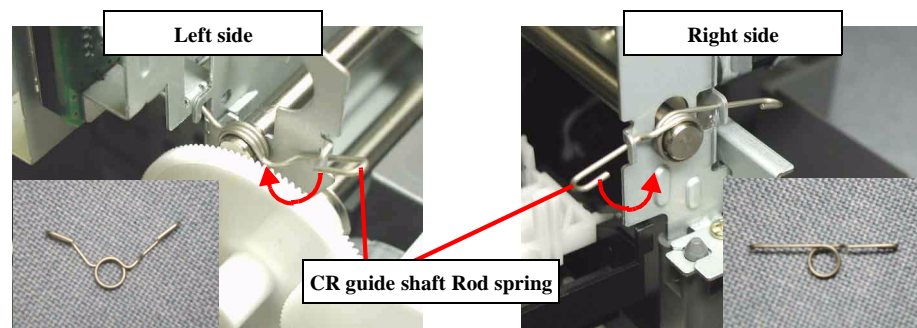

Figure 4-13. CR guide shaft rod spring release
- Make sure that two CR guide shaft rod springs is correctly fixed. (Refer to Figure 4-13)